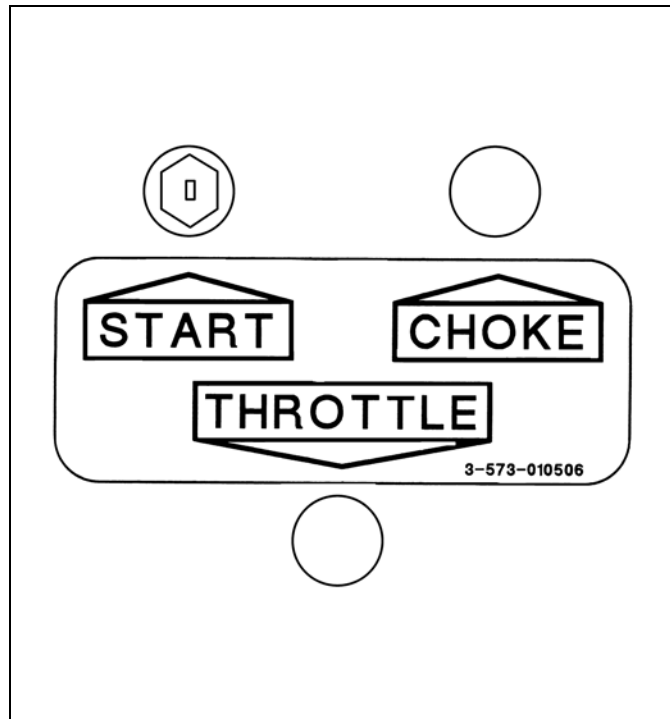

Figure 3-5: Engine Control Panel
2. The Engine Ignition Switch, Choke and Throttle are on the Engine Control Panel mounted on the driver's side of the trailer (See Figure 3-5.)
3. The **HYDRAULIC POWER SUPPLY ENGINE THROTTLE** controls the speed at which the engine operates (See Figure 3-5.) It is a variable position control: